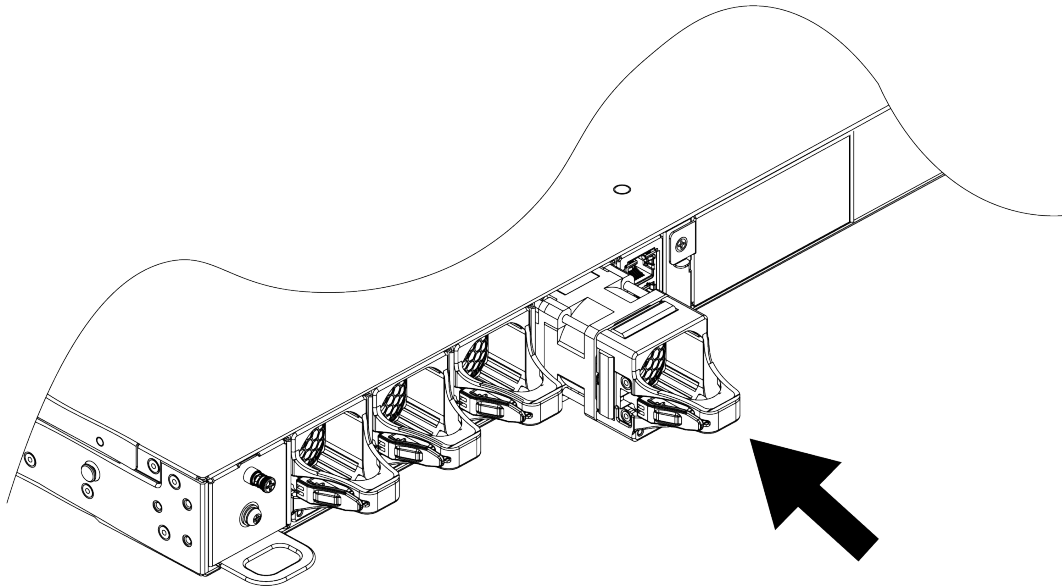

Figure 52: Installing a Fan Module
- Carefully slide the replacement fan module all the way into the fan module slot, as shown in Figure 52.